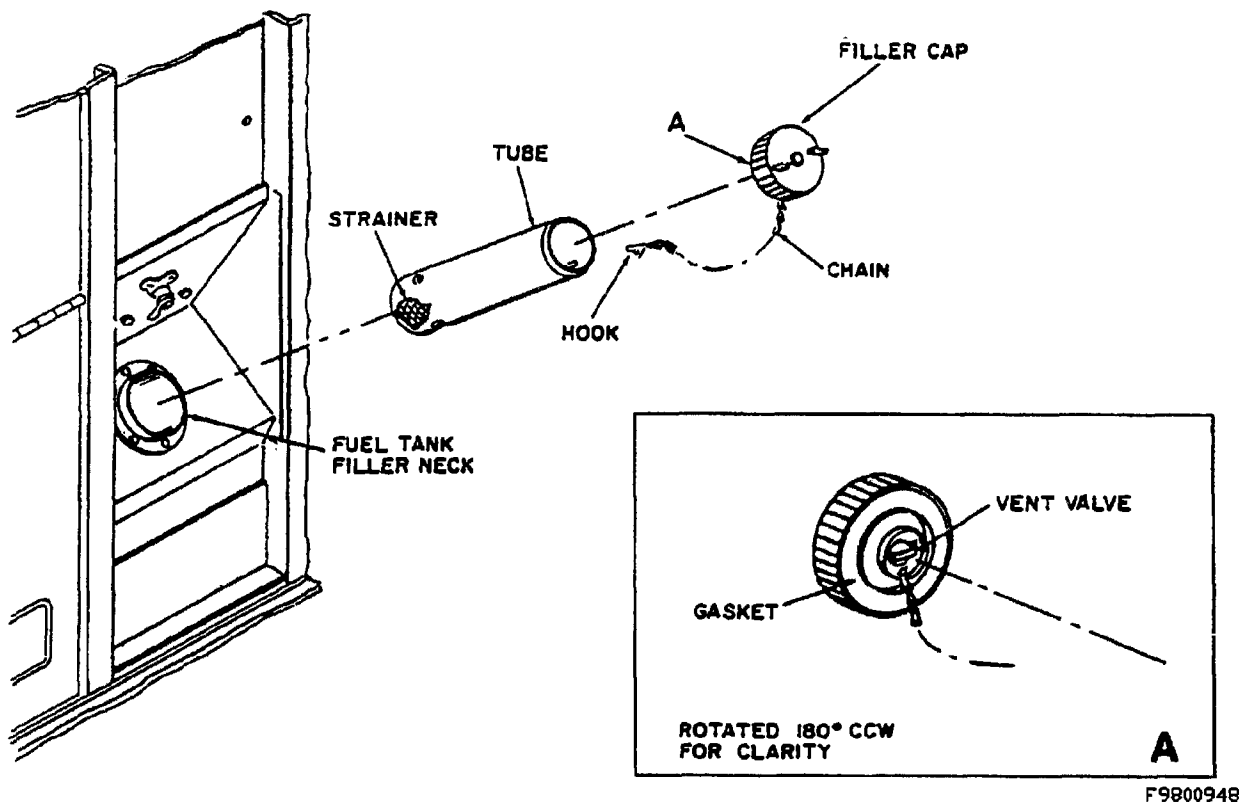

Figure 3-3. Fuel Filler Cap and Strainer
(2) Remove cap from day tank drain valve and open valve. (Day tank is located inside housing structure just above fuel tank filler cap and strainer.)
(3) Drain water and sediment into suitable container and close valve. Install cap on valve.
e. Fuel Tank. Inspect fuel tank for leakage or signs of obvious damage. Refer to figure 3-3 and service fuel tank as follows:
(1) Remove filler cap and strainer as illustrated in figure 3-3.
(2) Clean parts with cleaning solvent, P-D 680, Type II, and dry thoroughly.
(3) Check filler cap vent valve for proper opening and closing.
(4) Inspect strainer for holes, breaks, and tears.
(5) Inspect parts for cracks, breaks, and other damage.
(6) Install filler cap and strainer as illustrated in figure 3-3.